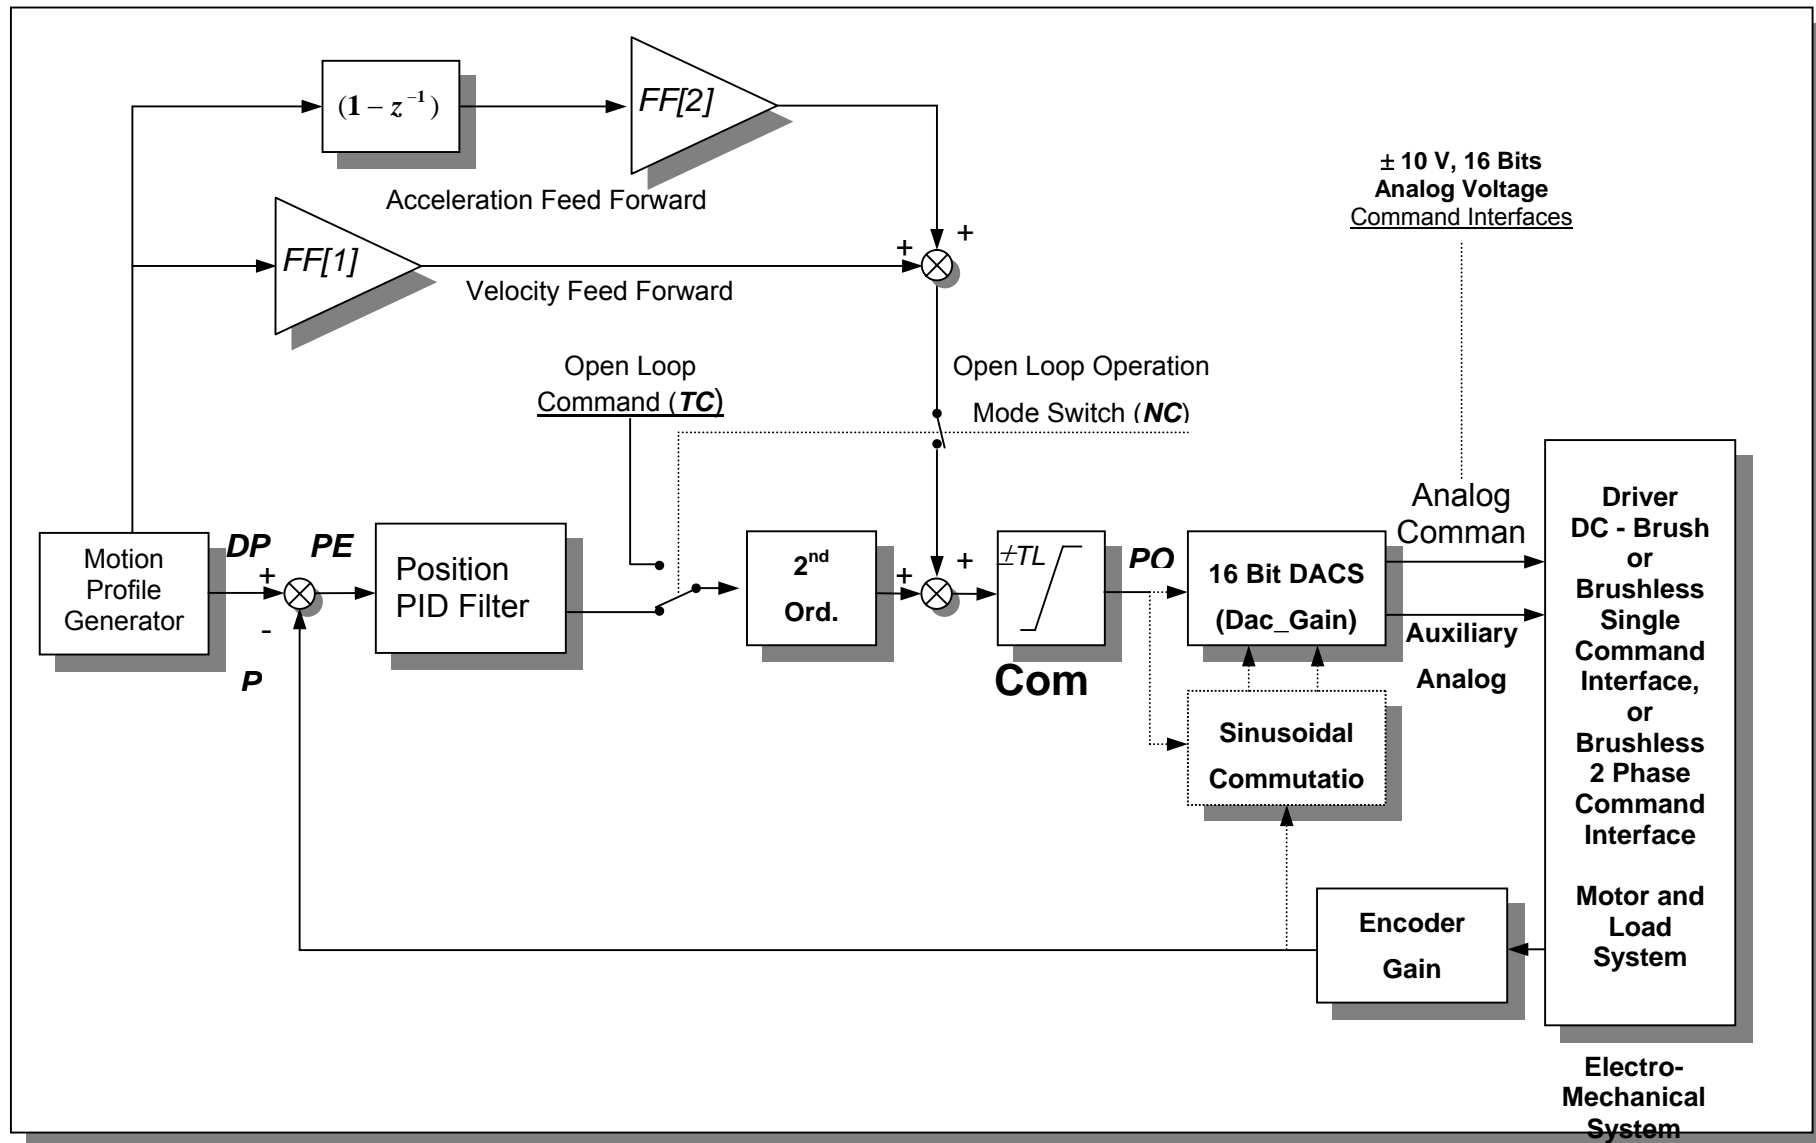

Figure 1-5: Position Loop (PID) Control Scheme Structure
- Figure 1-5 below shows the AL-4164-4MC control loop structure in PIV scheme.
The 2nd order filter is present in all control scheme structures, i.e.: PID, PIV and Open Loop (see figures Figure 1-4: Position Over Velocity Loop (PIV) Control Scheme Structure and Figure 1-5). The user can test the operation of the filter